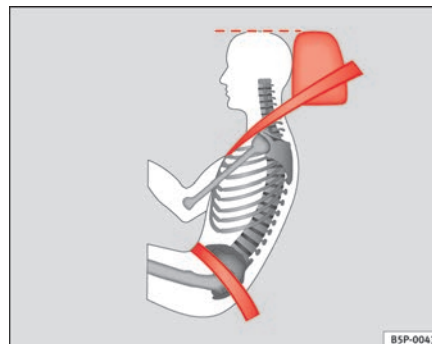

Fig. 13 Correct belt web and head restraint positions, viewed from side ▶
- The lap part of the seat belt must lie across the pelvis, never across the stomach. The seat belt must lie flat and snugly on the pelvis ⇒ page 22, fig. 13. Pull the belt tight if necessary to take up any slack.